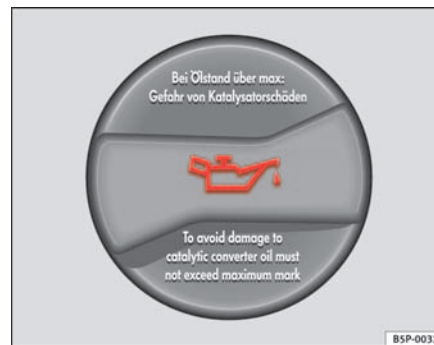

Fig. 137 In the engine compartment: Engine oil filler cap
- Unscrew cap from oil filler opening ⇒ fig. 137.